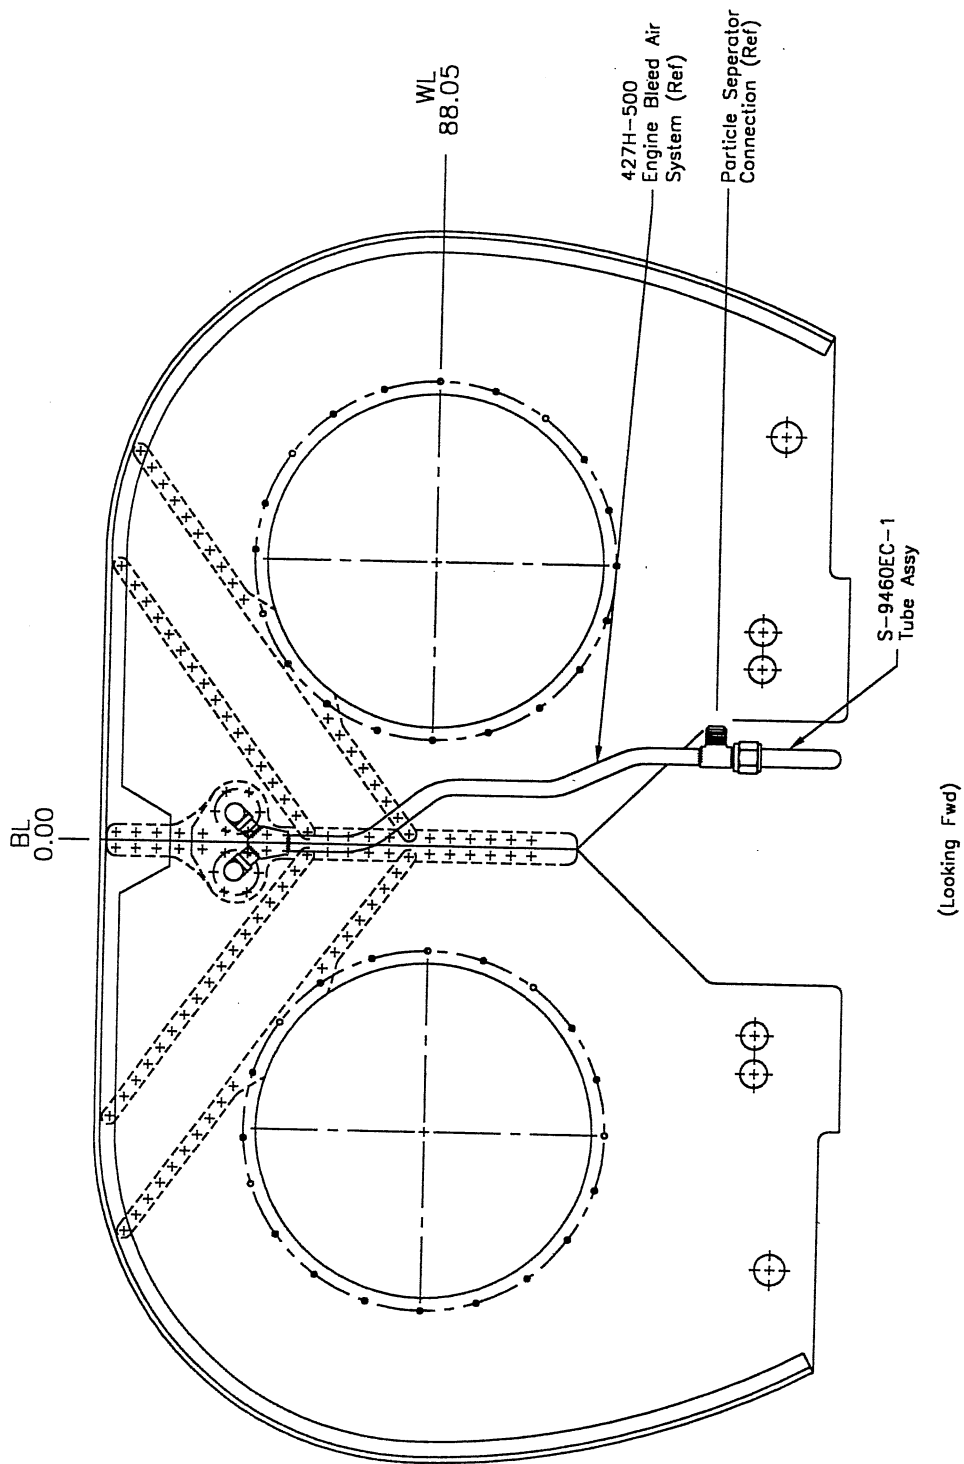

Figure 1-3, S-9460EC-1 Tube from the Engine Bleed System.
- a. Disconnect the S-9460EC-1 Tube from the Engine Bleed system (See figure 1-3).